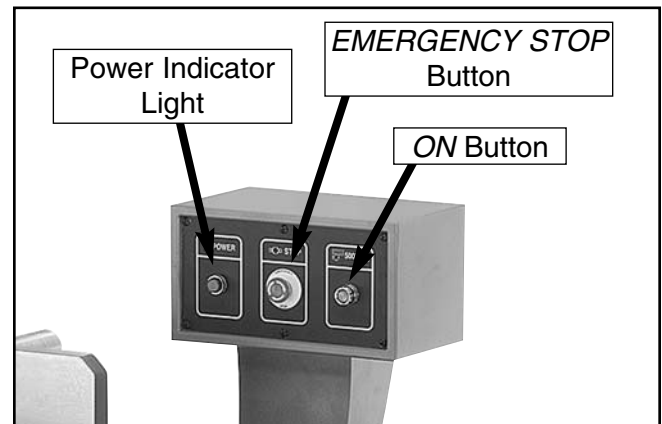

Figure 25. Pedestal switch.
3. Push the **ON** button shown in **Figure 25**.